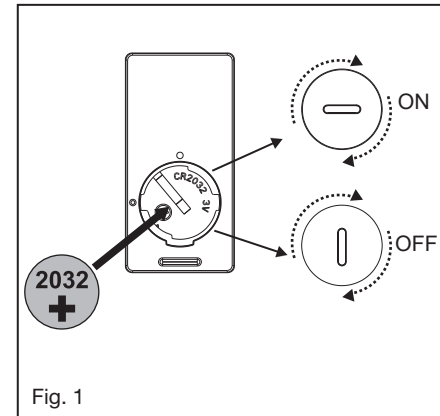

Fig. 1
1. Insert the receiver into the motor housing with the flat side of the receiver facing the ceiling. (Fig. 1) For best performance, make sure the Black Antenna and WIFI Antenna, on the end of the receiver, remains extended and not tangled with any of the electrical wires.
- 2 While holding the LED light kit under your fan, make the polarize plug connections: (Fig. 1)
- 3 Place the key holes on the LED assembly over the 2 screws previously loosened, turn the light plate until it locks in place at the narrow section of the key holes. Secure by tightening the 2 screws previously loosened and the one previously removed. (Fig. 1)
- 1 Select a desired location. Use the wall plate to mark the location of the mounting holes. Plastic wall anchors or mounting screws are needed for this application. (Fig. 1)
Remove the panel from the transmitter and then install one 2032 battery (included). You need to use a coin to open or close the battery cover. To prevent damage to transmitter, remove the battery if not use for long periods of time (Fig. 1)